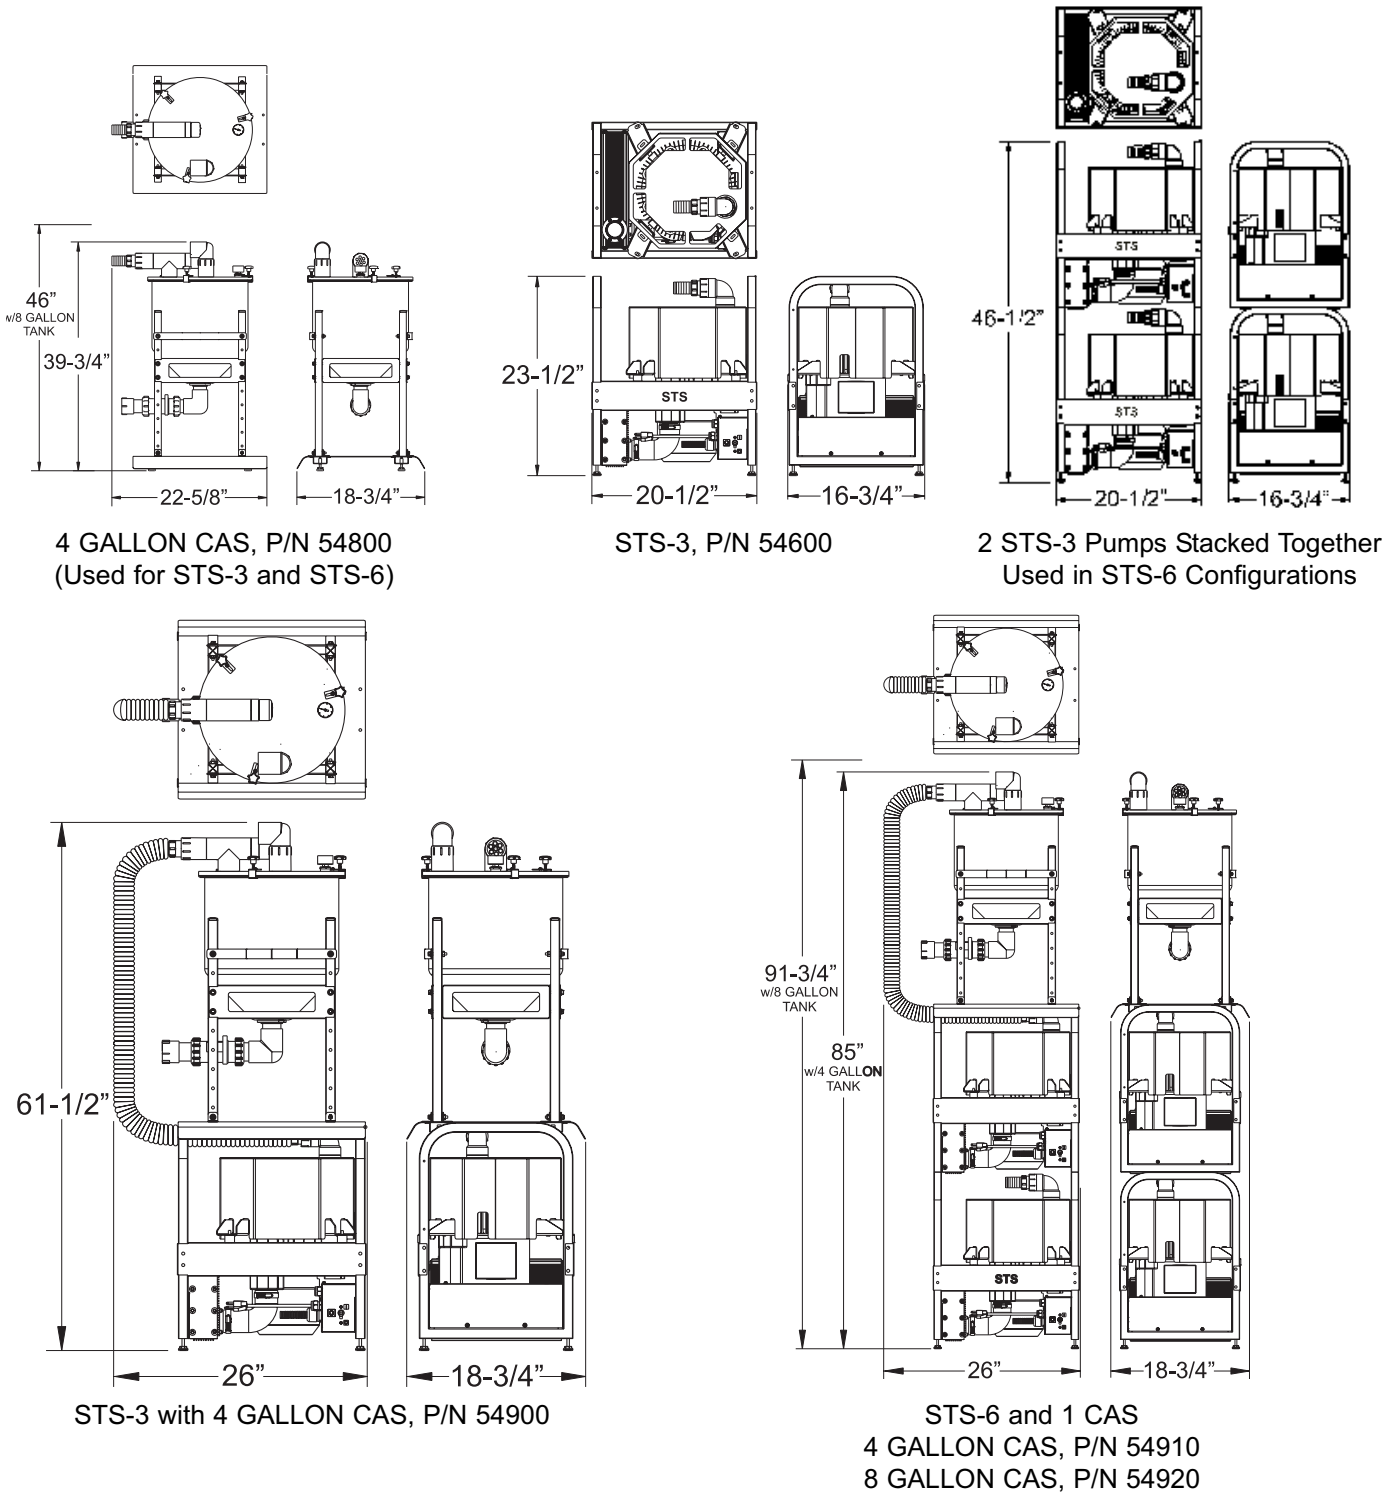

Figure 2. STS-3 and STS-6 with Stainless CAS Configuration Dimensions
STS-3/STS-6 Configuration Dimensions. Figure 2 shows the space requirements for STS-3 and STS-6 model configuration installations. Please note that all CAS heights can be increased by 4 inches and decreased by 6 inches using the adjusting holes in the 4-rail support assembly.
1. Refer to Figure 2 and determine the installation footprint dimensions and connection requirements. Place the CAS tank and STS pump in position.
2. Refer to Figure 2 and determine the installation footprint dimension and connection requirements. Place the CAS tank and STS pumps in position.